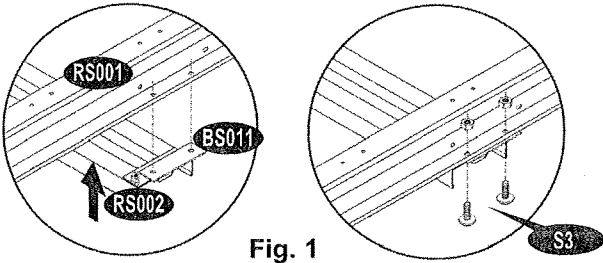

Fig. 1
**14.** Fix horizontal support runner (**RS002**) with brackets (**BS011**). Secure all with (**S3**) machine screws with nuts. See fig. 1 & 2.